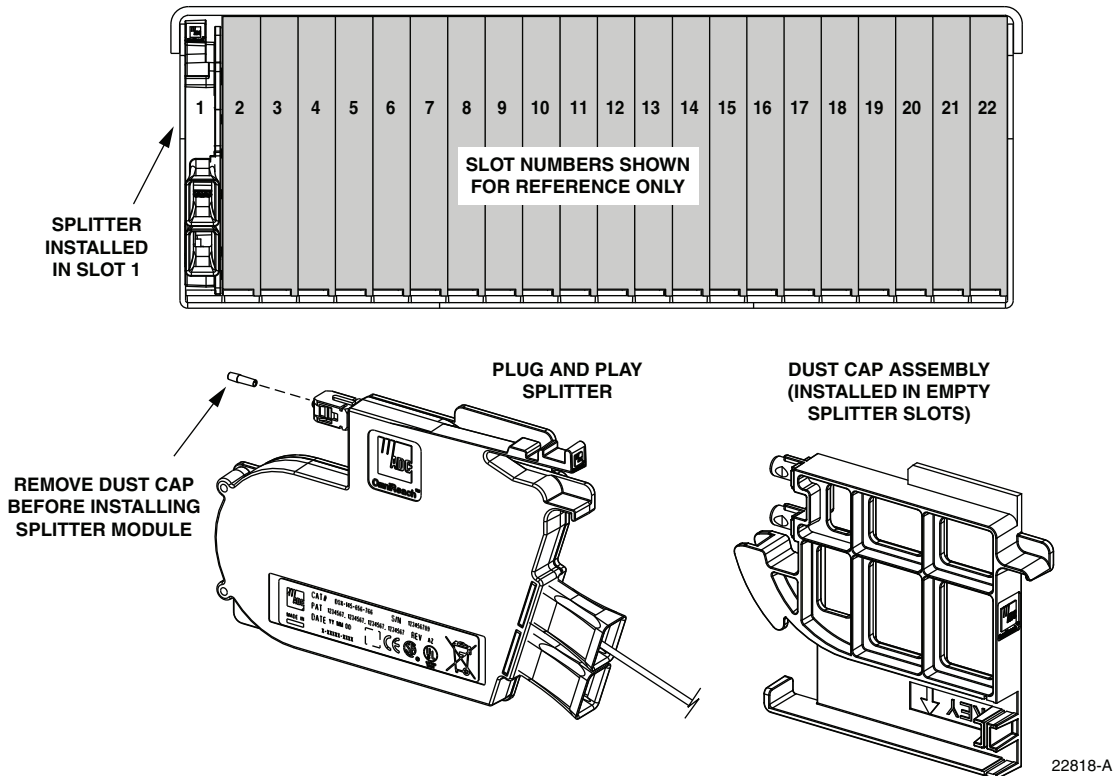

Figure 62. Splitter Module Installation
2. Locate the next available splitter mounting position as shown in Figure 62.
7. Remove the dust cap from the splitter connector (see Figure 62).